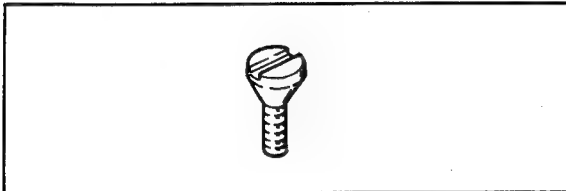
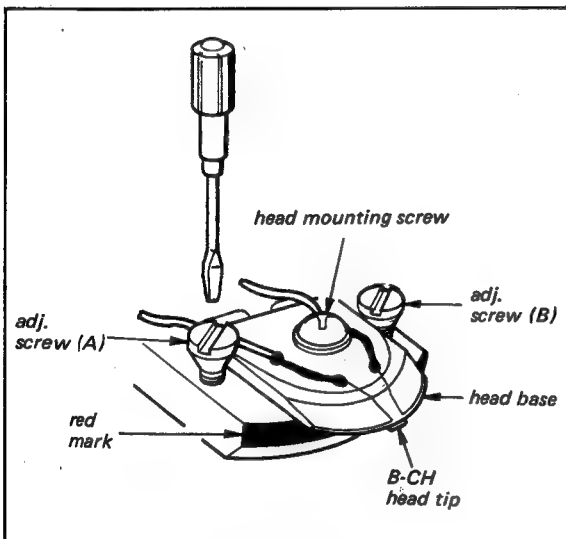
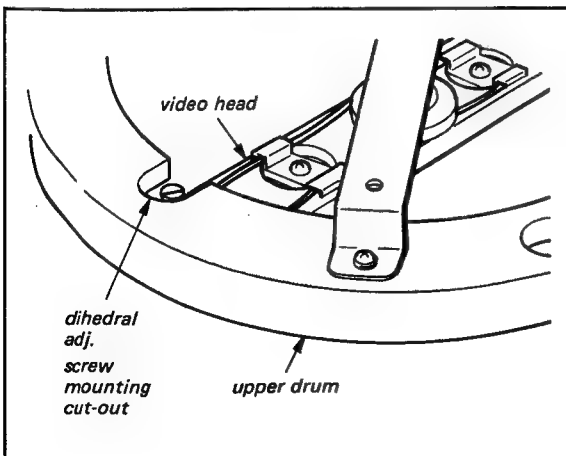

Fig. 7-11 Head dihedral adjust screw
Fig. 7-12 Dihedral adjustment (1)
Fig. 7-13 Dihedral adjustment (2)
23. Position the video head assembly as shown in Fig. 7-13. Install four angle adjustment screws (SONY Part No. 3-618-904-00) shown in Fig. 7-11 into both heads as shown in Fig. 7-12. Thread them in until slightly snug. Do not exert force.
See. Fig. 7-12.
25. Turn (a) screw in Fig. 7-12 CCW $\frac{1}{4}$ turn and (b) screw CW $\frac{1}{4}$ turn.
27. Turn (a) screw in Fig. 7-12 CW by $\frac{1}{4}$ turn and (b) screw CCW by $\frac{1}{4}$ turn. Repeat Steps 26 and 27 until displacement becomes invisible.